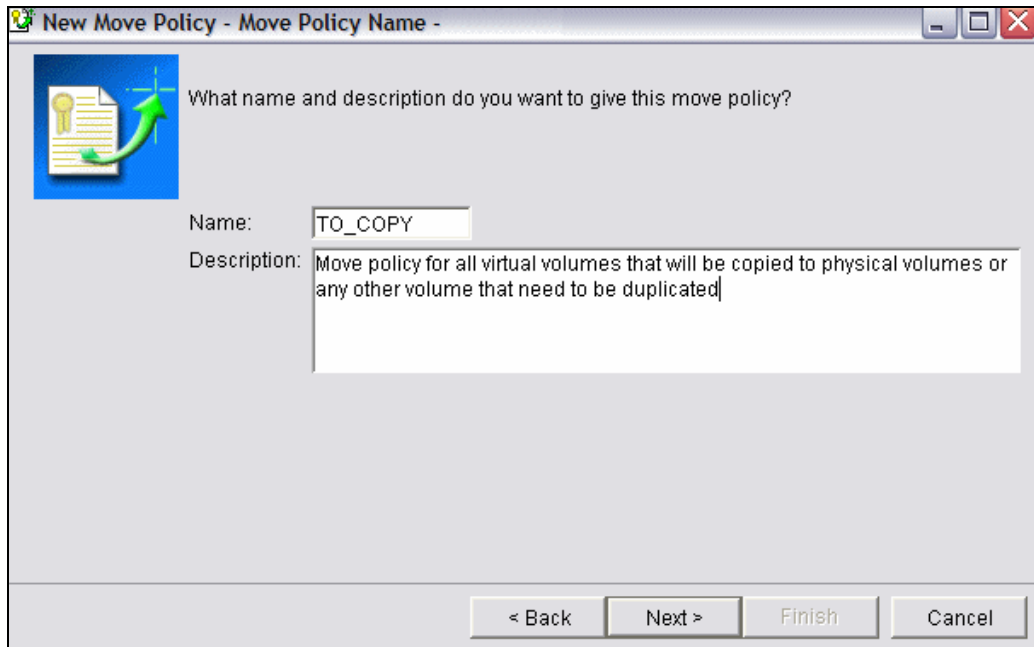

Figure 7-5 New move policy
2. In the window that appears, as shown in Figure 7-5, fill in the policy name as TO\_COPY.